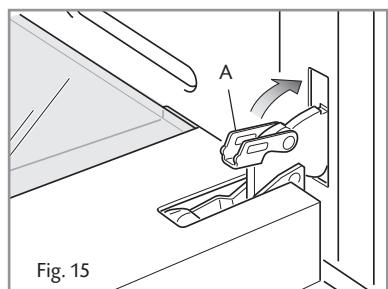

Fig. 15
4. Fully close the levers **A** on the left and right hinges, as shown in the figure 15.